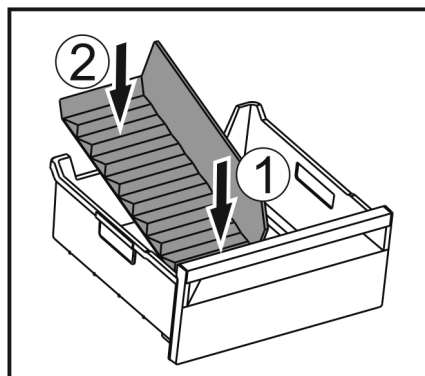

Fig. 154
- ▶ Insert the front part of the ice compartment divider. Fig. 154 (1)
- ▶ Lower the rear part of the ice compartment divider to the drawer bottom. Fig. 154 (2)